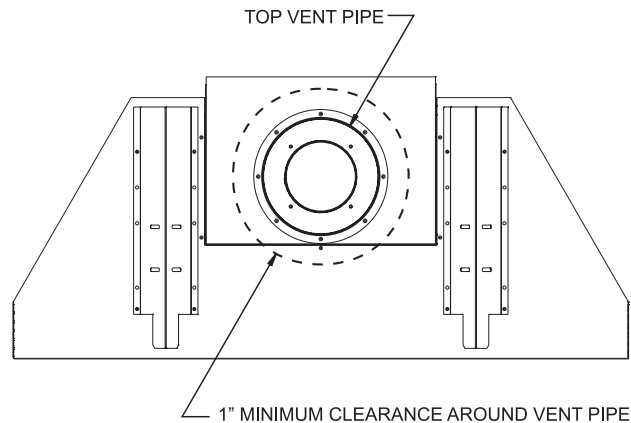
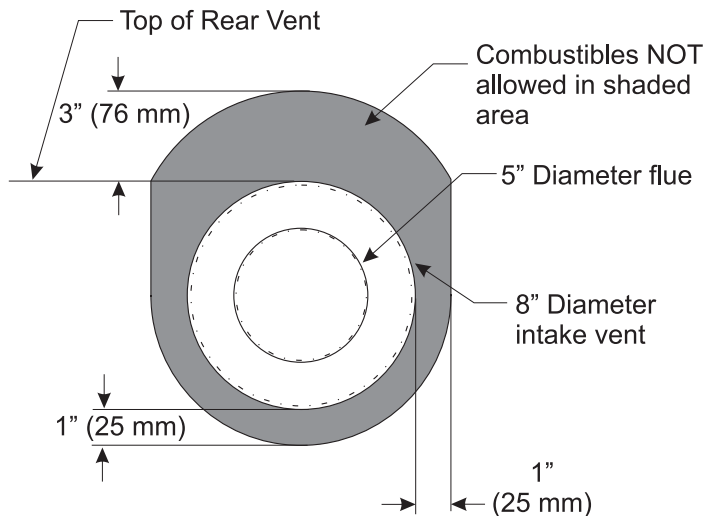

Figure 11 - Top Vent
Figure 12 - Rear Vent
**NOTE:** Maintain one inch of clearance around top vent pipe. **See Figure 11.** For rear vent, maintain a minimum 1" clearance to the bottom and sides of the vent, and 3" clearance to combustibles above the vent pipe. **See Figure 12.**